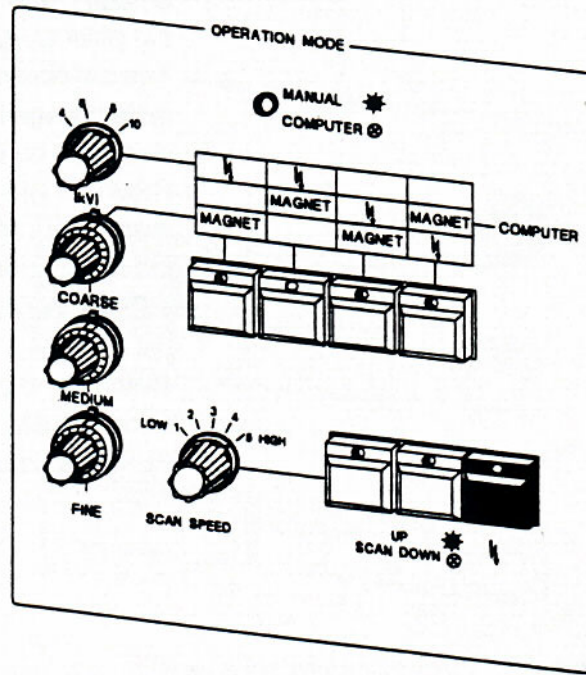

Figure 3
- y. Press the upper far left button on the Ops. Control panel (figures 3 & 8).